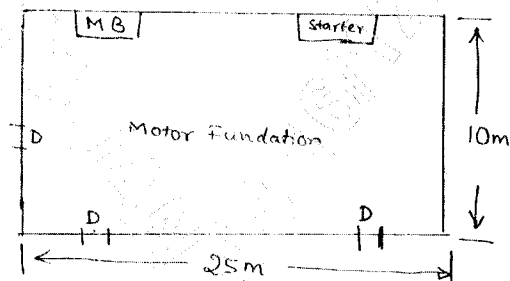

Fig. Q5 (b)
- b. A 10 HP 415 V, 3 phase, 50 Hz, squirrel cage induction motor is to be installed in a factory the plan of which is shown in Fig. Q5 (b). Show the layout of the wiring and estimate the quantity of material required. The wiring is to be surface conduit. Assume efficiency of motor is 82% and power factor is 0.81 lagging. (12 Marks)